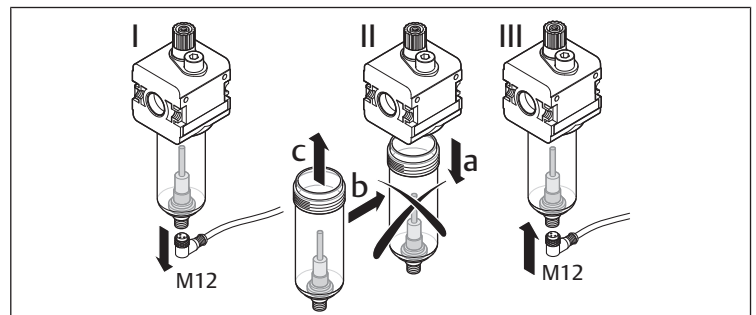

Fig. 7: Exchange the reservoir with sensor
→ Fig. 7
▶ Release the sensor's M12 plug from the connection socket on the bottom of the oil reservoir (→ Fig. 7 I).
▶ Exchange the old reservoir for a new one (→ Fig. 7 II b, c).
▶ Connect the sensor to the connection socket on the bottom of the oil reservoir with an M12 plug (→ Fig. 7 III).